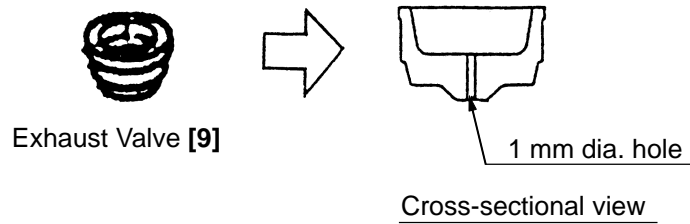

Fig. 13
- Loosen the three Hex. Socket Hd. Bolts (W/Flange) M6 x 45 [1] and as illustrated in Fig. 13, remove the Head Cap and Gasket Set [10], Exhaust Valve [9], Exhaust Piece [7], Gasket (C) [8] and Gasket (F) [6].
- Be sure to check that the Exhaust Valve [9] is orange and provided with a 1 mm dia. hole (Fig. 13) before reassembly. Note that mounting a wrong exhaust valve may cause a malfunction.
- Gasket (C) [8] and Gasket (F) [6] should be replaced with new genuine Hitachi parts.